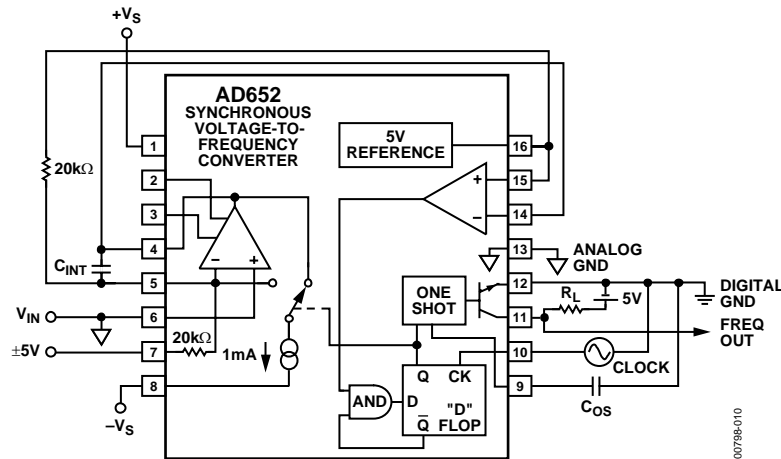

Figure 10. Bipolar Offset
A bipolar input voltage of $\pm 5\text{ V}$ can be accommodated by injecting a $250\ \mu\text{A}$ current into Pin 5 (see Figure 10). A -5 V signal provides a zero sum current at the integrator summing junction, which results in a zero-output frequency; a $+5\text{ V}$ signal provides a 0.5 mA (full-scale) sum current, which results in the full-scale output frequency.
1. Use an external resistor for R_{OS} and the internal $20\text{ k}\Omega$ resistor for R_{IN} (as shown in Figure 10).